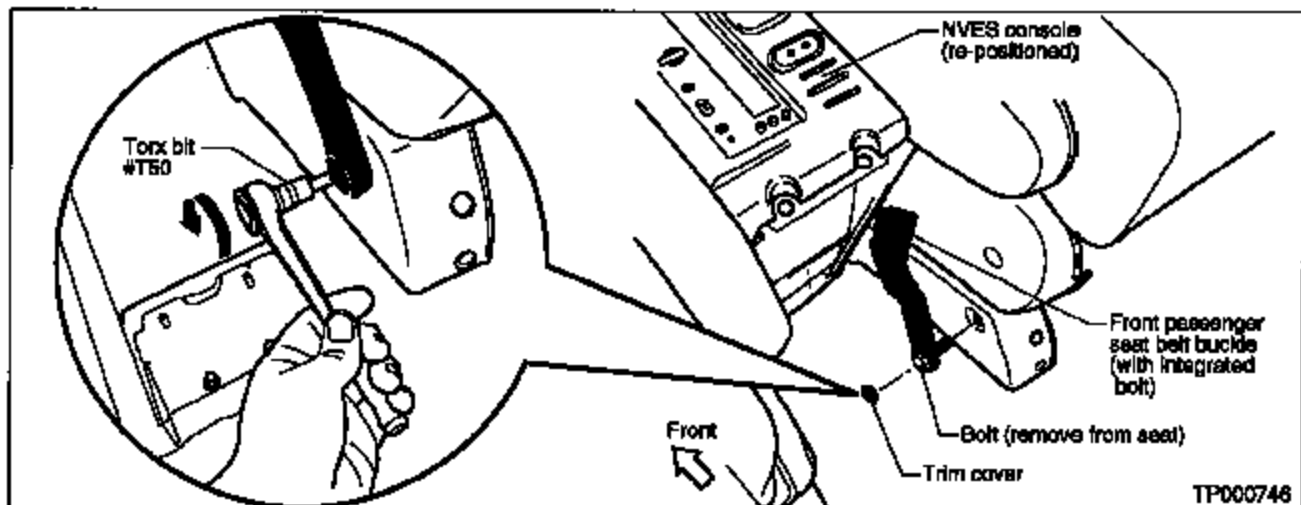

Figure 3
2. Unscrew (using a Torx-bit #T50) and remove the trim cover over the seat belt buckle mounting bolt (see Figure 3).
3. Unscrew the bolt and remove the front passenger seat belt buckle (see Figure 3).
6. Re-install the trim cover over the seat belt buckle mounting bolt (see Figure 3).